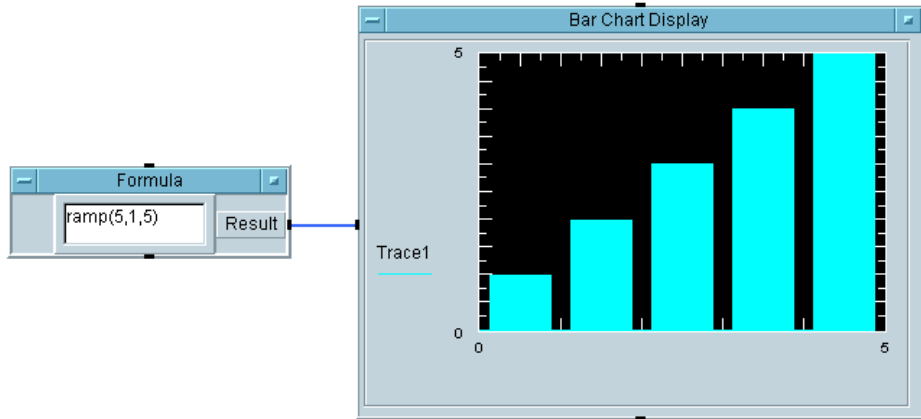

Figure 8-22. Merging the BarChart Program
5. Run the program. It should look like Figure 8-22.